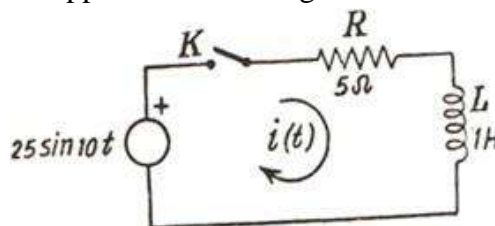

Figure:2
3. A sinusoidal voltage $25 \sin 10t$ is applied at time $t=0$ to a series R-L circuit shown in figure 2, consisting of $R = 5\Omega$ and inductor $L = 1$ Henry. Find the value of $i(t)$. Assume no current through the inductor before application of voltage. [15]